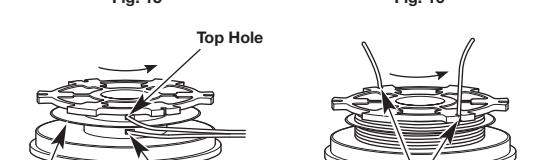

Fig. 17
- Using one split end, insert one line into the top hole and the other line into the bottom hole in the inner reel (Fig. 17).